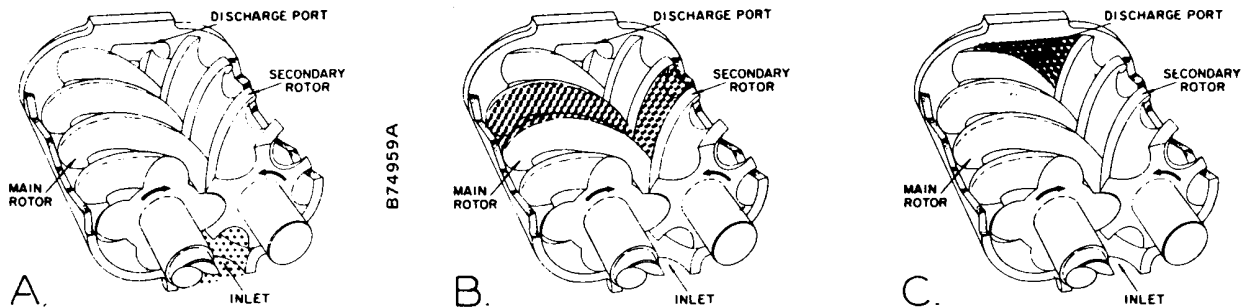

Figure 1-1 – COMPRESSOR CYCLE
COMPRESSION PRINCIPLE (Figure 1-1) - Compression is accomplished by the main and secondary rotors synchronously meshing in a one-piece cylinder. The main rotor has five (5) helical lobes 72° apart. The secondary rotor has six (6) matching helical grooves 60° apart to allow meshing with main rotor lobes.
The air inlet port is located on top of the compressor cylinder near the drive shaft end. The discharge port is near the bottom at the opposite end of the compressor cylinder. *Figure 1-1 is an inverted view to show inlet and discharge ports.* The compression cycle begins as the rotors unmesh at the inlet port and air is drawn into the cavity between the main rotor lobes and the secondary rotor grooves (A). When the rotors pass the inlet port cutoff, air is trapped in the interlobe cavity and flows axially with the meshing rotors (B). As meshing continues, more of the main rotor lobe enters the secondary rotor groove, normal volume is reduced and pressure increases.